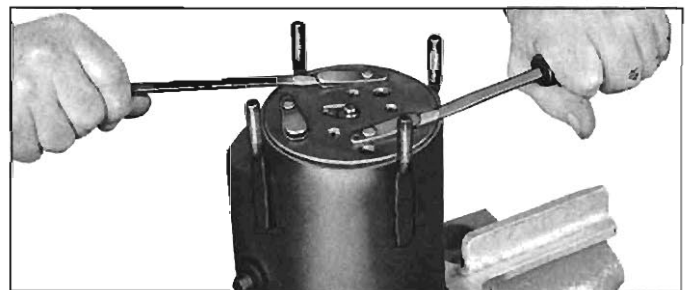

Fig. 11-43—Remove Rear Discharge Valve Plate
7. With two screwdrivers, carefully pry up on the rear discharge valve plate assembly (fig. 11-43). Check for broken reeds or damaged seats and replace entire assembly if such is found.